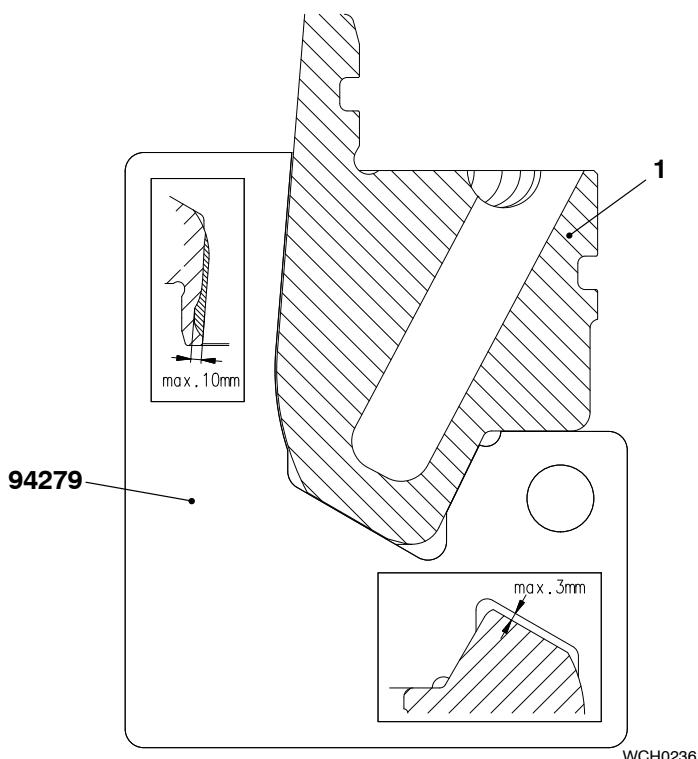

Fig. 4
- 2) Put the valve seat (1) in the correct position on the tool (94291).
- 3) Put the template (94279, Fig 4) on the valve seat.